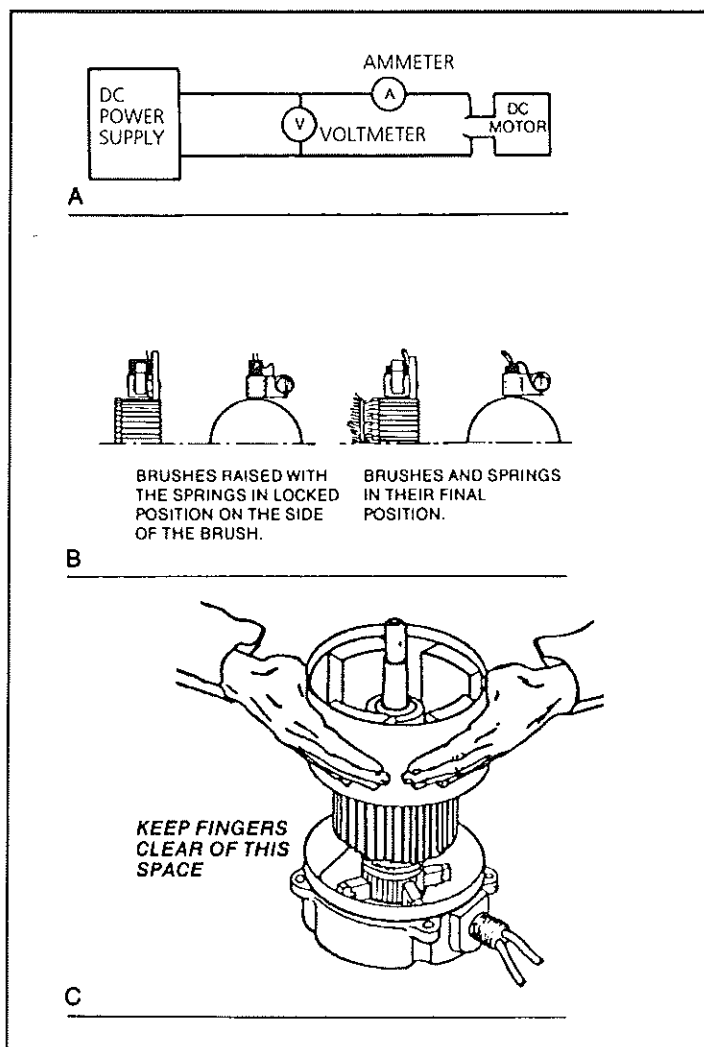

Figure 4-19: Electric Motor Service
4.14 Electric Motor (Figure 4-19)